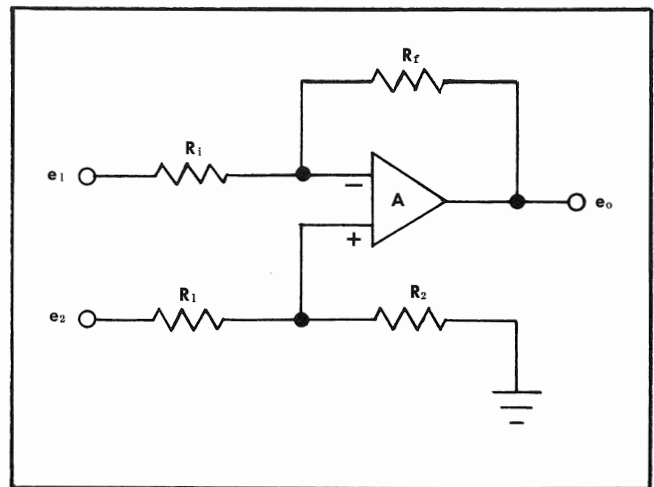
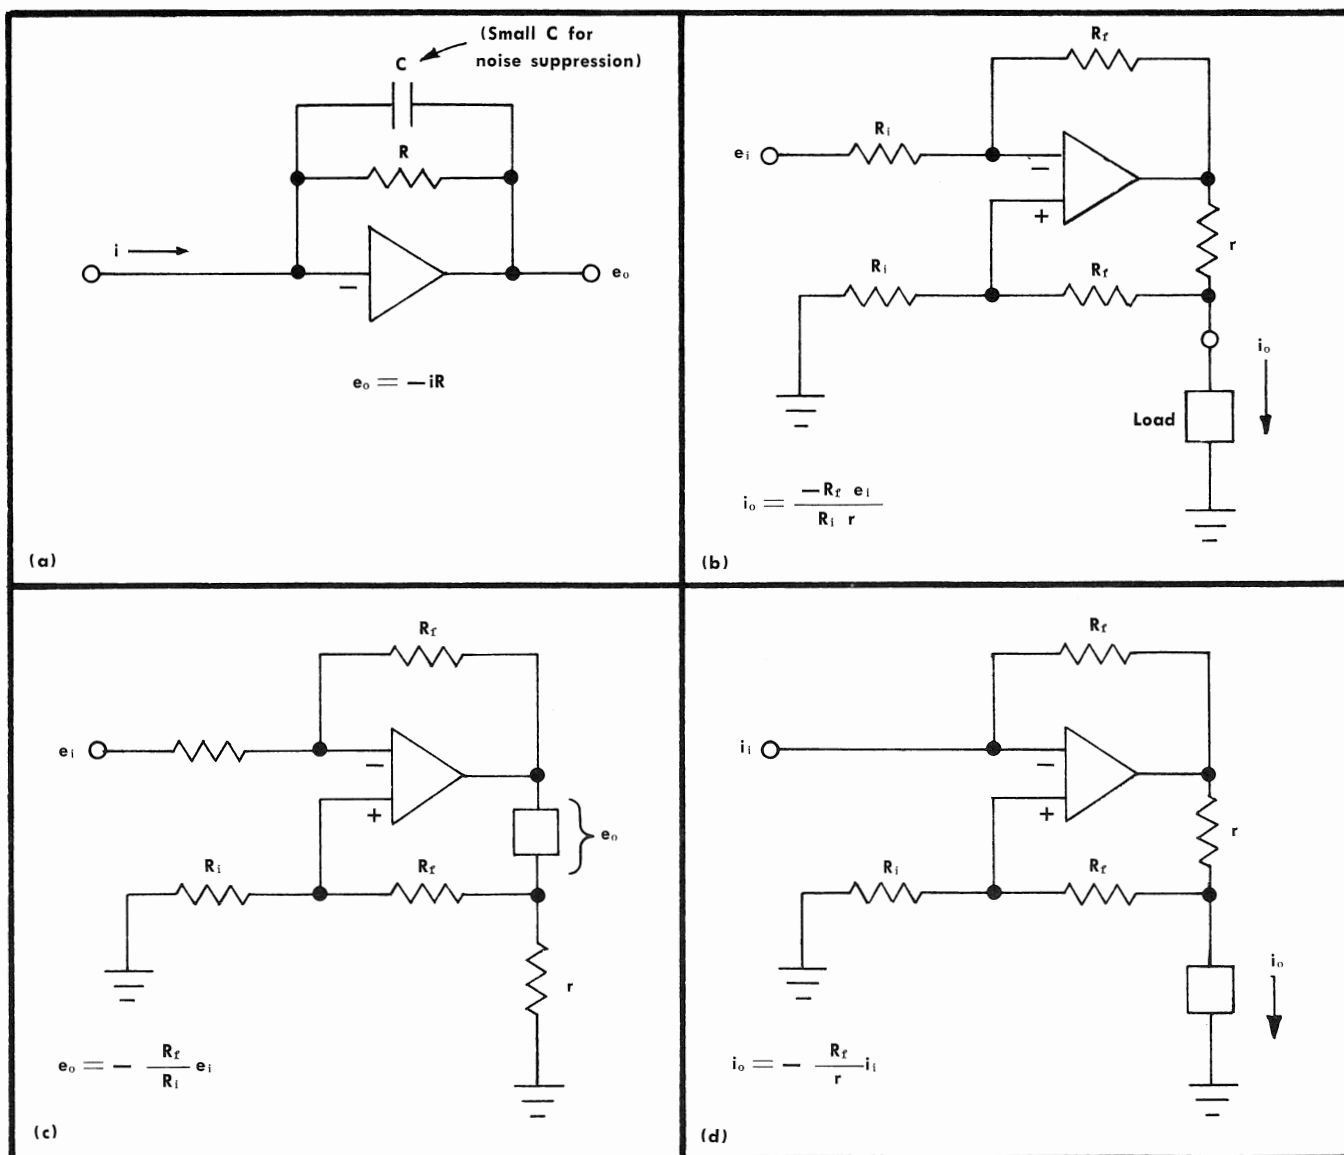

Fig. 3-2. Basic form of operational amplifier with both negative and positive active grids.
Fig. 3-3. Operational amplifiers in Voltage-Current conversions. (a)  $i_{in}/-e_{out}$ ; (b)  $e_{in}/-i_{out}$ ; (c)  $e_{in}/-e_{out}$ ; (d)  $i_{in}/-i_{out}$ .
The most basic form of an operational amplifier, illustrated in Fig. 3-2, is a time insensitive circuit that includes both negative and positive feedback. While many versions of the basic form can be used in time insensitive circuits, the four most common forms are: (1) an input voltage generates an output voltage; (2) an input voltage generates an output current; (3) an input current generates an output voltage; and (4) an input current generates an output current. These four basic Operational Amplifiers are illustrated in Fig. 3-3, and various forms appear in the applications that follow.